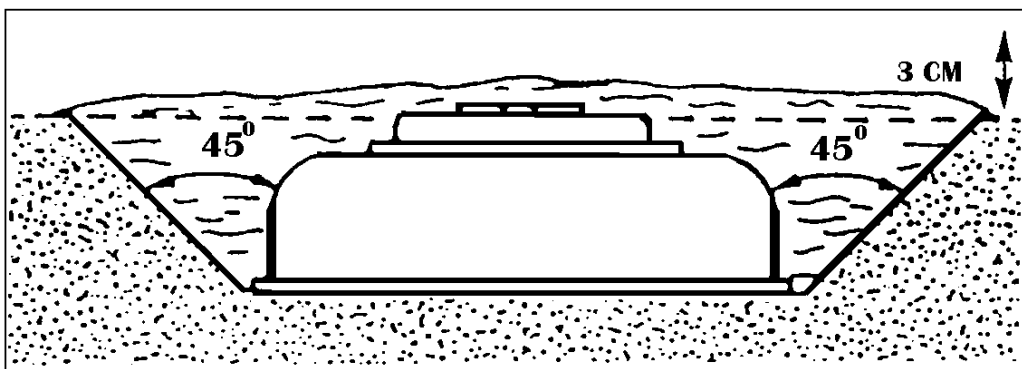

Figure 051-192-1107-6
- a. Ensure that the setting knob is in the SAFE (S) position.
- b. Dig the sides of the hole at a 45-degree angle to prevent vehicles from bridging the mine (Figure 051-192-1107-6).